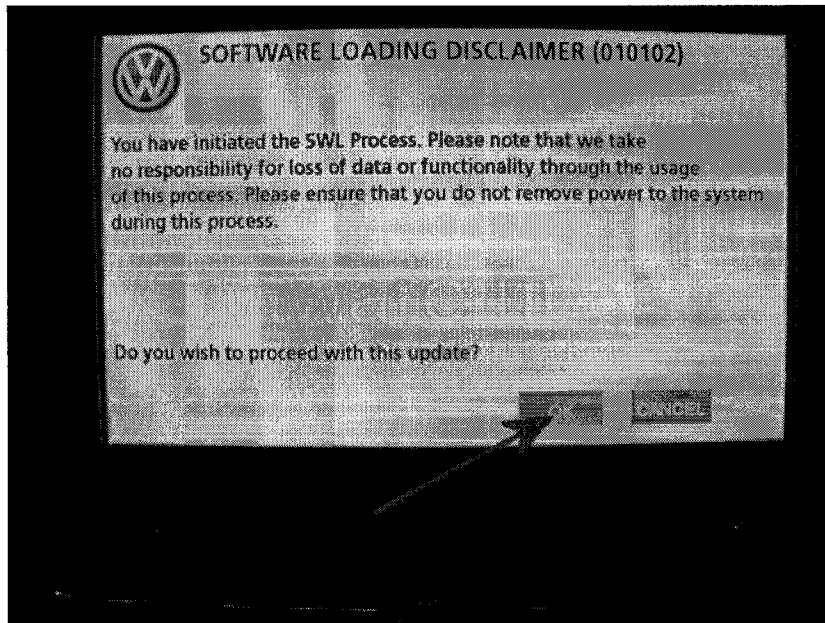

Figure 27
4. After inserting the disc wait until the "Software Loading Disclaimer" screen is displayed, then press the "OK" button to proceed (see Figure 27). **Note:** A DVD/CD error screen and other screens will briefly be displayed before the software loading disclaimer is shown these screens can be ignored